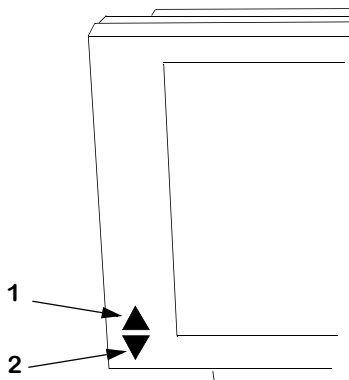

Figure 13 Pen Tablet (Modified) Controls and Indicators
3.7 Pen Tablet Modification. Refer to **Figure 13** and **Table 4** for explanation of controls and indicators for the modified Pen Tablet.